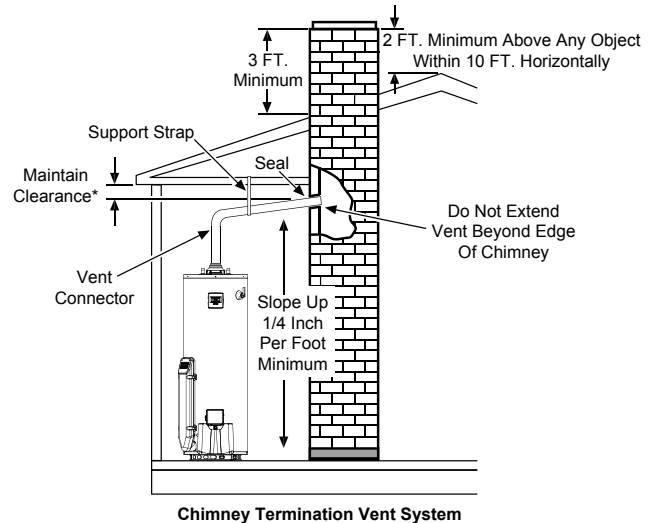

FIGURE 20.
- The connector must not extend beyond the inner edge of the chimney as it may restrict the space between it and the opposite wall of the chimney (Figure 20).